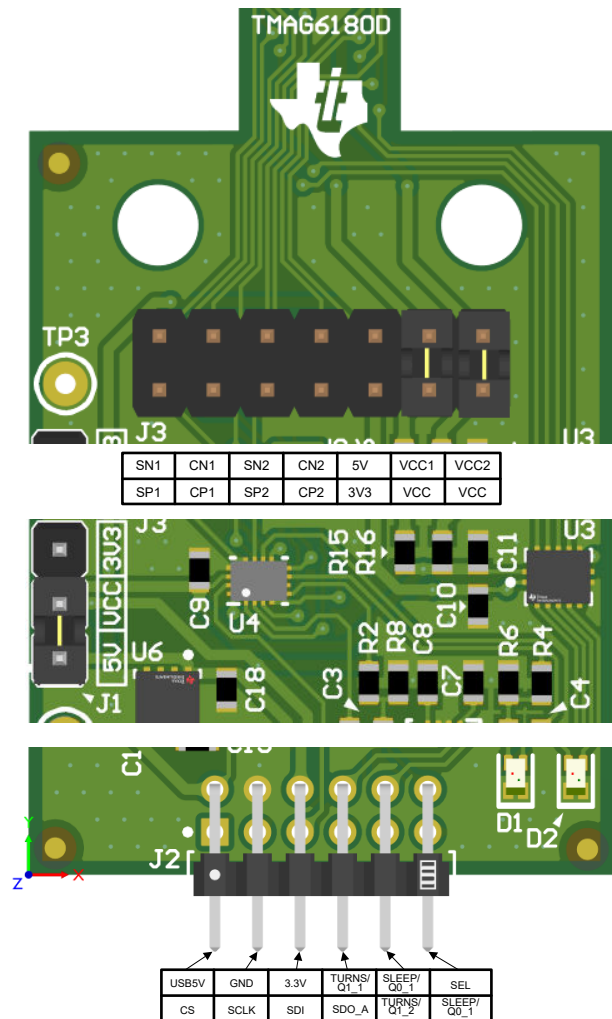

Figure 3-2. Connections for TMAG6180DEVM when Operated Independently
1. While instruments are disabled, connect the power supply to the following pins. Refer to Figure 3-2 for guidance. Power can be applied at header J2 or J3. For visual feedback through the LED indicators for Q0 and Q1 outputs, apply power through the J2 Header.
1. While instruments are disabled, connect the power supply to the following pins. See Figure 3-2.